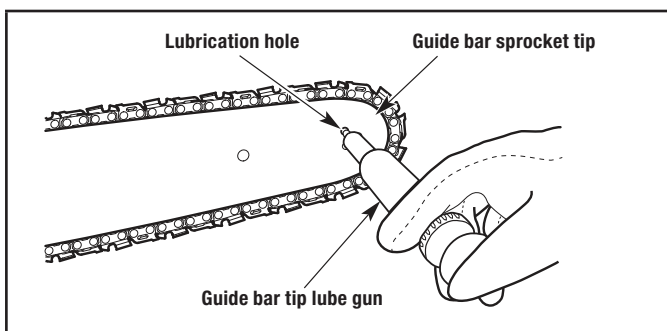

Figure 40
1. Clean the guide bar sprocket tip thoroughly with a damp cloth (Fig. 40).
2. Use a guide bar tip lube gun (not included) to inject grease into the lubrication hole (Fig. 40). Inject grease until it appears on the outer edge of the guide bar sprocket tip.